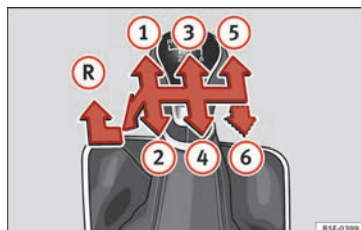

Fig. 52 Gear shift pattern of a 5 or 6-speed manual gearbox
The position of the gears is indicated on the gearbox lever »» **Fig. 52**.
- With the gearbox lever in neutral, push it upwards, move it to the left as far as it will go and then forwards to select reverse »» Fig. 52 **R**.